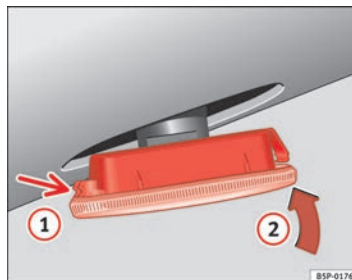

Fig. 158 Side turn signals
- First fit the turn signal in the opening in the chassis, fastening the tabs **1** ⇒ fig. 158, and then fit in the bulb as shown by the arrow **2** ⇒ fig. 158. ■